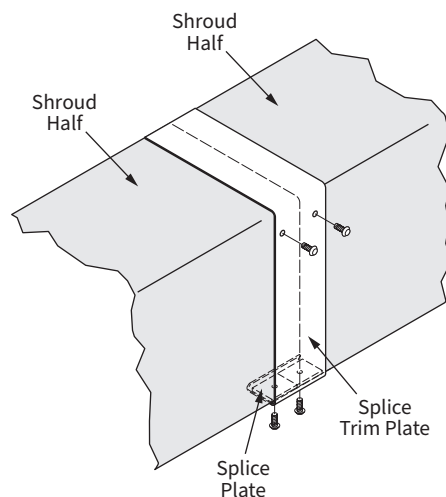

Figure 13: Shroud Splice Plate
1. Install top shroud halves and bottom splice plate (Figure 13).